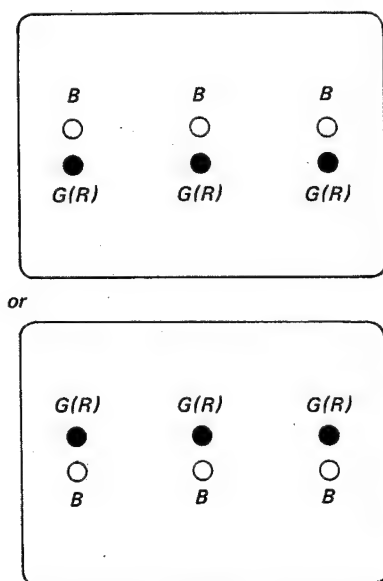

Fig. 3-9.
2. If the blue dot does not converge with the green and red dots at the centre of the screen, adjust the vertical magnetic convergence (VMC) control as necessary. See Fig. 3-9.